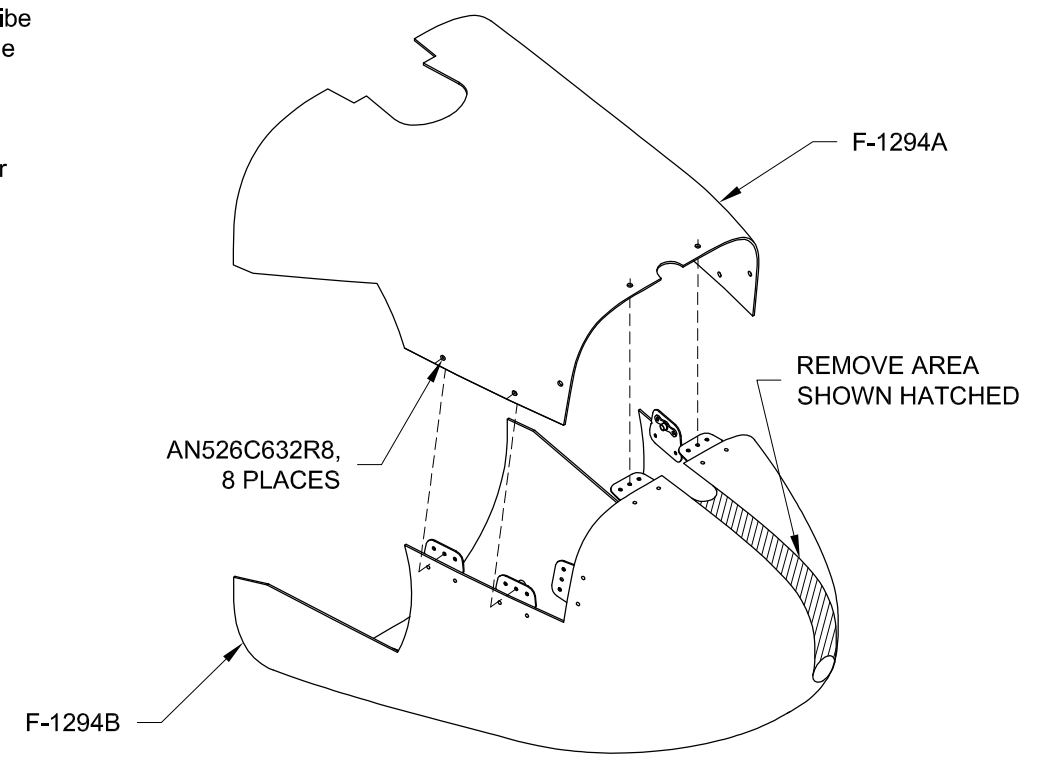

**FIGURE 2:**
**Step 3:** Countersink the #40 holes in the F-1294B Lower Tailcone Fairing per call-out in Figure 2.
**Step 4:** Rivet the F-1294C Tabs to the F-1294B Lower Tailcone Fairing using the rivets called out in Figure 2.
**Step 8:** Align the forward edge of the F-1294 Assembly to the fairing edge line on each piece of masking tape (Refer to Page 12-05, Figure 2). If/as necessary adjust the alignment to ensure at least 1/8 inch clearance from the bottom edge of the Rudder Assembly. Clamp the Fairing Assembly in position.